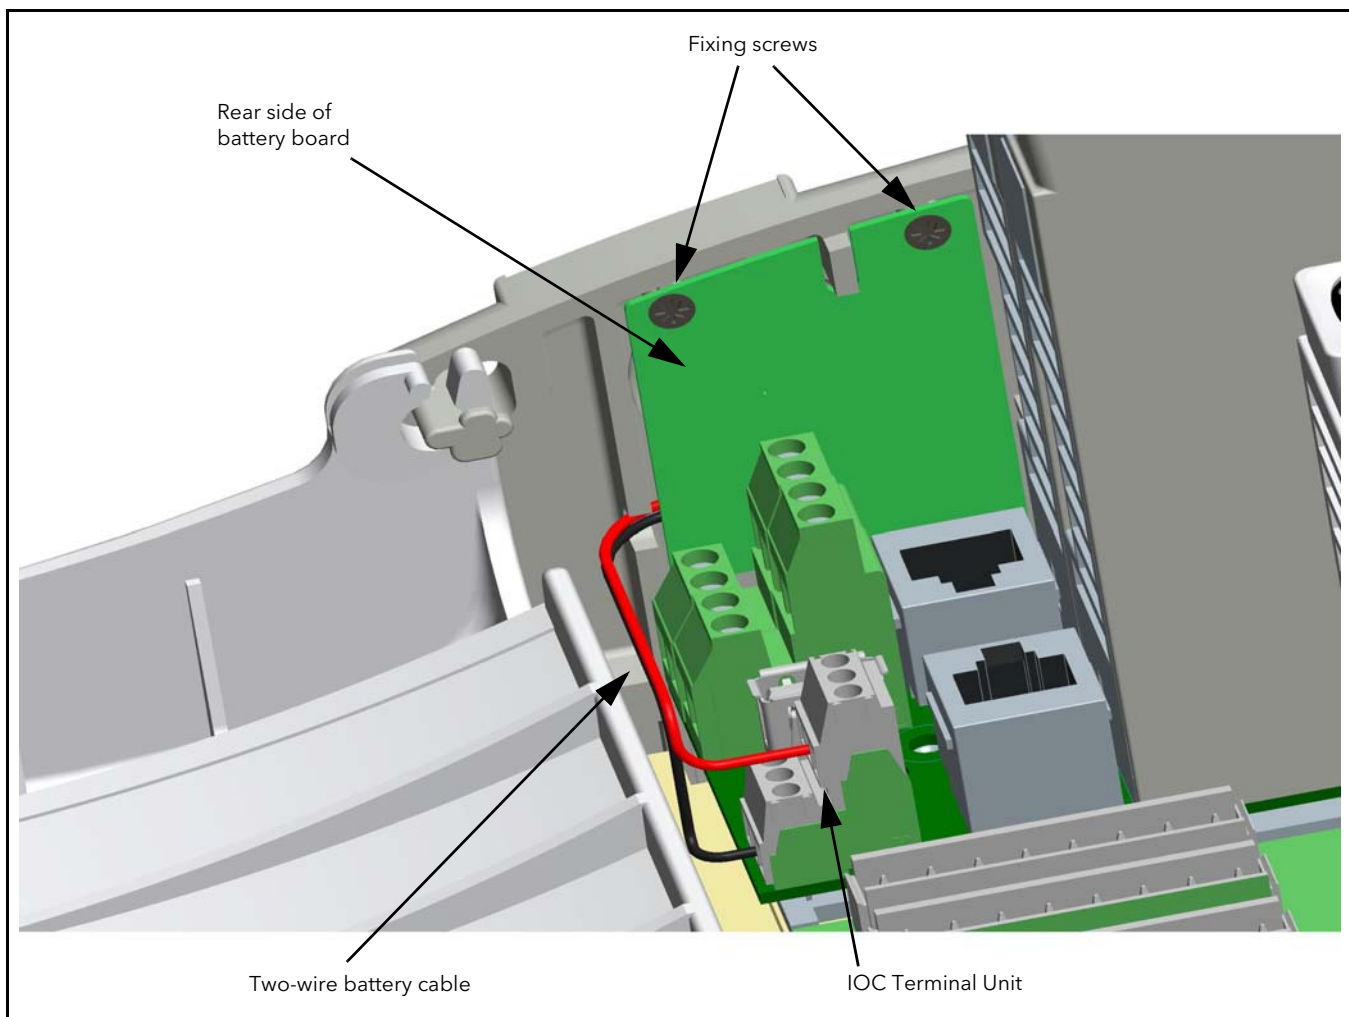

Figure C.1 Battery board in place
2. Locate the back of battery board (Figure C.1): It is on the inside of the plastic side panel to the left of the controller module, and is fixed in place by two screws. A two-wire cable runs from the front of the battery board to the controller module terminal unit; the red wire connects to the **B+** terminal, the black wire connects to the **B-** terminal. It is recommended leaving these wires connected to the terminals whilst replacing the battery.